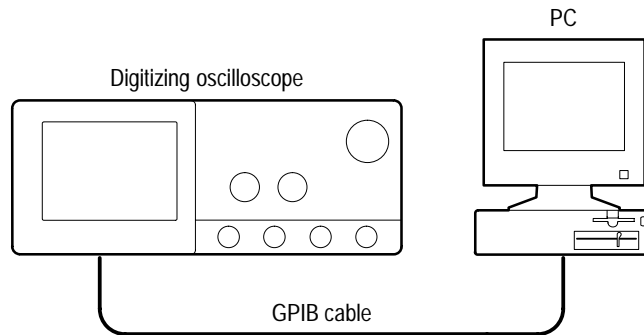

Figure 1: PC & TDS setup
1. Attach a GPIB cable to the 24-pin GPIB connector on the rear panel of the TDS, as shown in Figure 1.